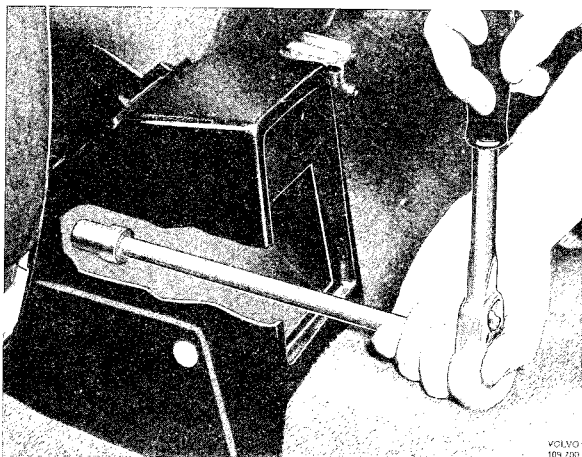

Fig. 5-82. Cable adjustment
2. Screw out the adjustment screw at the rear end of the parking brake lever to slacken the cables. The screw is accessible through the ash-tray hole by using a 17 mm socket with extension (Fig. 5-82).
1. Remove the rear ash-tray and screw out the adjustment screw at the rear end of the parking brake lever to slacken the cable (Fig. 5-82).